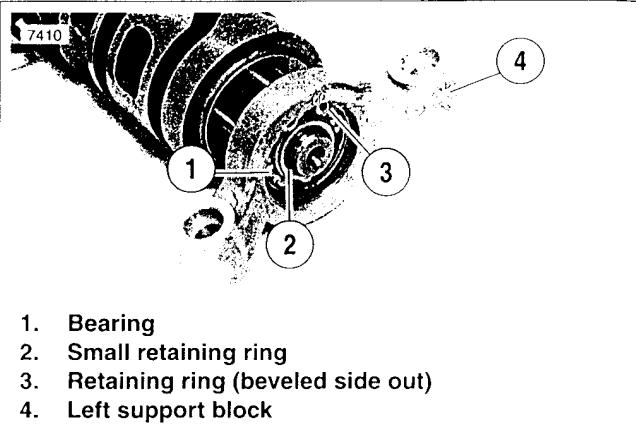

Figure 7-6. Left Support Block
- a. See Figure 7-6. Place a bearing (1) inside left support block by pressing on the side of the bearing with letters stamped on it. This side should face out.
- b. Secure bearing by installing a new retaining ring (3) with the beveled side facing out.